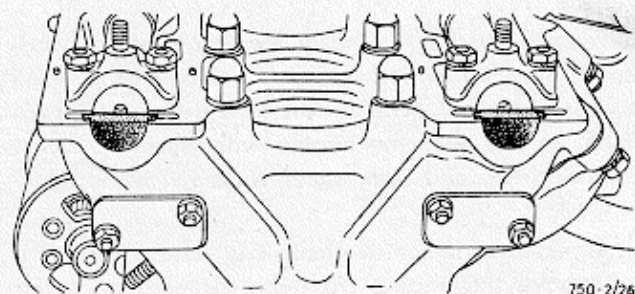

Fig. 26 - Oil sealings on the cylinder head in front of the rear camshafts ends
- 2) Before re-assembly, examine the rubber seals used to close the holes through which the camshaft seats are bored (see fig. 26).